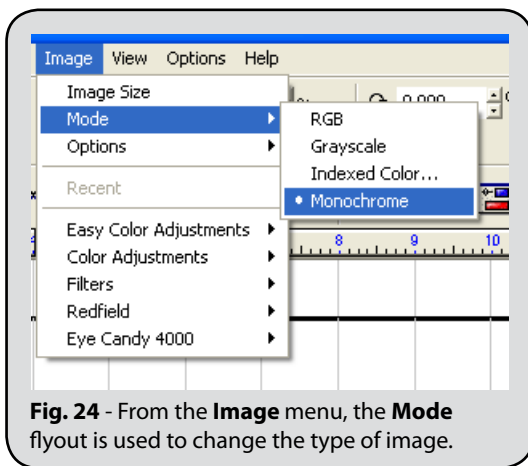

Fig. 24 - From the **Image** menu, the **Mode** flyout is used to change the type of image.
2. Choose **Image** menu >> **Mode** >> **Monochrome** (Fig. 24).